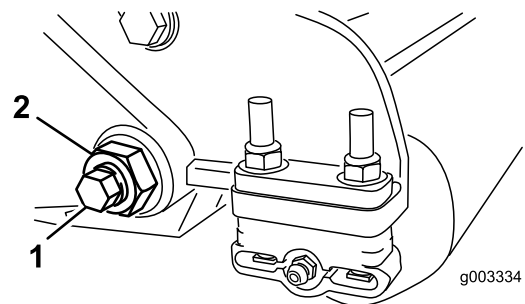
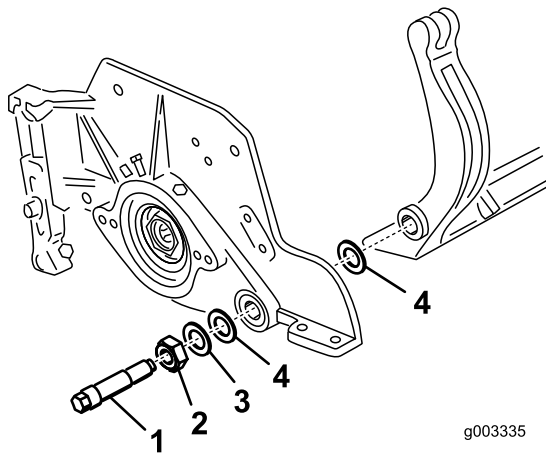

Figure 37
Figure 38
3. On each side of the machine, loosen the locknut securing the bedbar bolt (Figure 37).
4. Remove each bedbar bolt, allowing the bedbar to be pulled downward and removed from the machine bolt (Figure 37). Account for 2 nylon washers and 1 stamped steel washer on each end of the bedbar (Figure 38).
Note: Position a nylon washer on each side of side-plate boss. Place a steel washer outside each of the nylon washers (Figure 38).